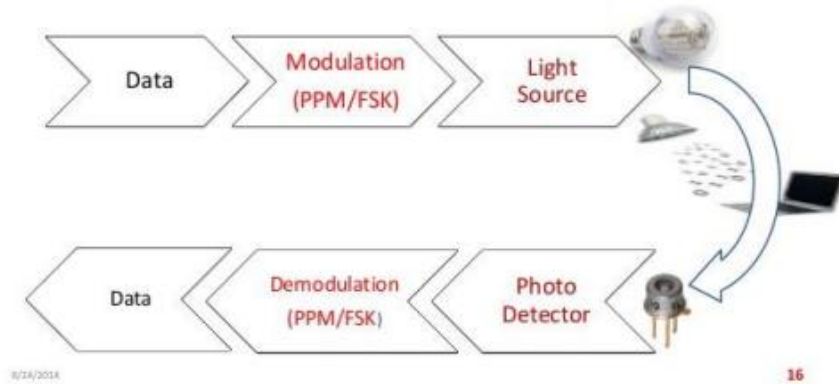

Fig2: Block Diagram of Li-Fi Technology
- Figure 2 is **a continuity tester**. You can use this circuit to check for the continuity of cables, connectors, and switches.